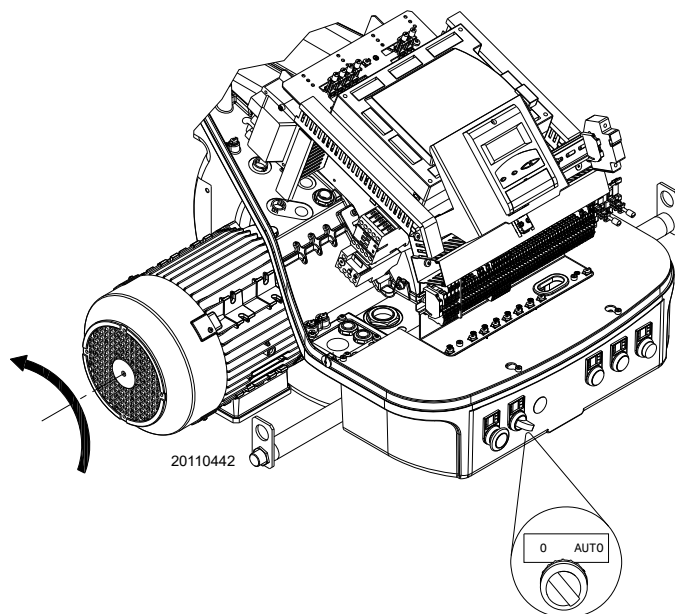

Fig. 27
Close the thermostats/pressure switches and turn the switch to Fig. 27 "AUTO".
If voltage is present, then **immediately** stop the burner and check the electrical wiring. When the burner starts, check the direction of the rotation of the motor, as shown in Fig. 27.
- place the switch of Fig. 27 in position "0" and wait for the flame control to carry out the switch-off phase;
- working on the switch "0-AUTO" of Fig. 27 at page 31;